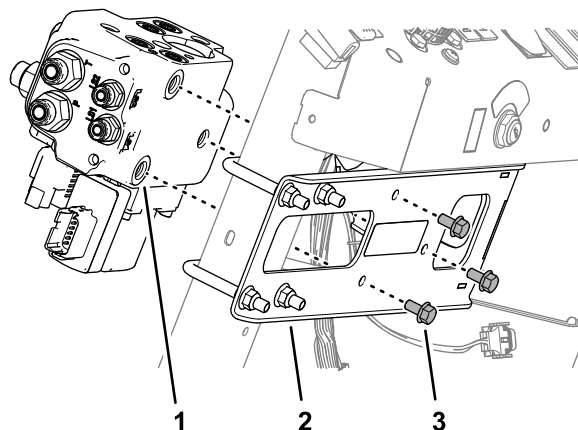

Figure 35
1. Align the holes in the body of the EHI steering valve with the holes in the manifold mount (Figure 35).
2. Secure the valve to the mount (Figure 35) with 3 flange-head capscrews (8 x 16 mm).